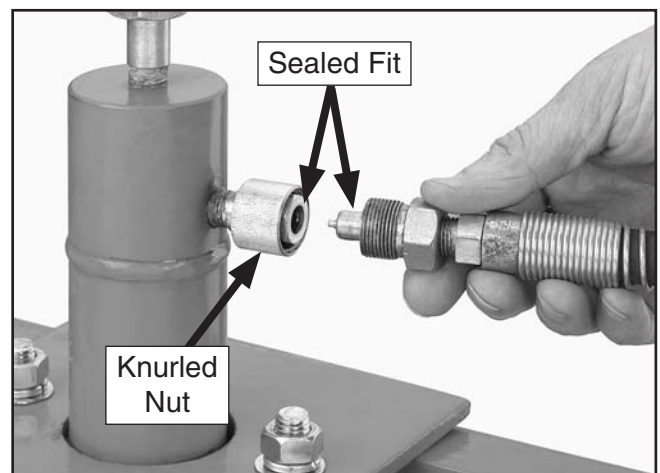

Figure 17. Hydraulic line installation.
- Remove the plastic caps, connect the pressure line to the piston housing, and thread the knurled nut onto the self-sealing hydraulic fitting. Do not use Teflon tape or thread sealant of any kind on this type of fitting, as it employs a self-sealing design (see **Figure 17**).